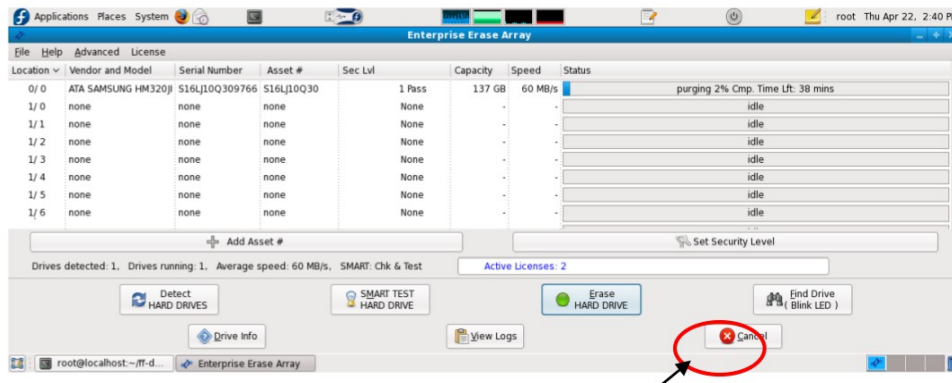

Figure 4.1 – Successful Completion of Erasure Process (Green Bar)
4.2 Once the drive has been selected, press the button at the bottom of the user interface screen marked “Cancel”. Figure 4.1 shows the location of this button.